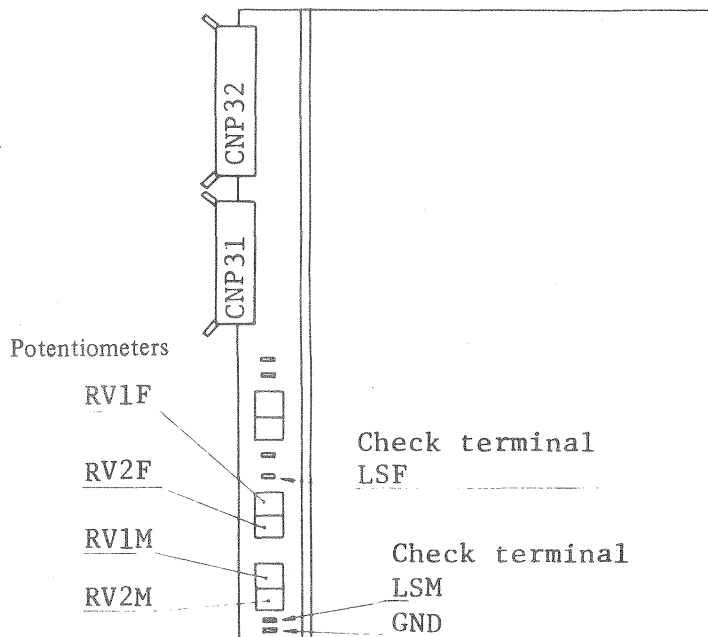

Figure 5.6 PCA 1A04 located in the MTU logic gate assembly
- (5) Measure the voltage between LSF (Figure 5.6) and ground. Adjust potentiometer RV1F so that the voltage is 0 ± 0.2 vdc.